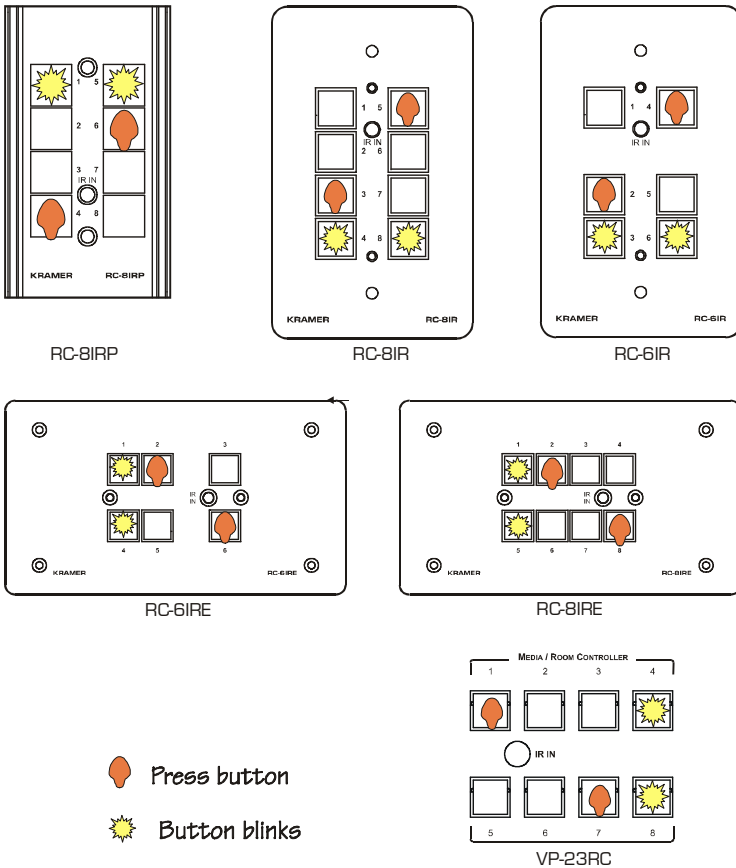

Figure 15: Initializing the IR Learner Procedure
3. Simultaneously press and hold the two buttons (illustrated in Figure 15) for 2 seconds.
The buttons (as illustrated in Figure 15) on the RC device blink sequentially.